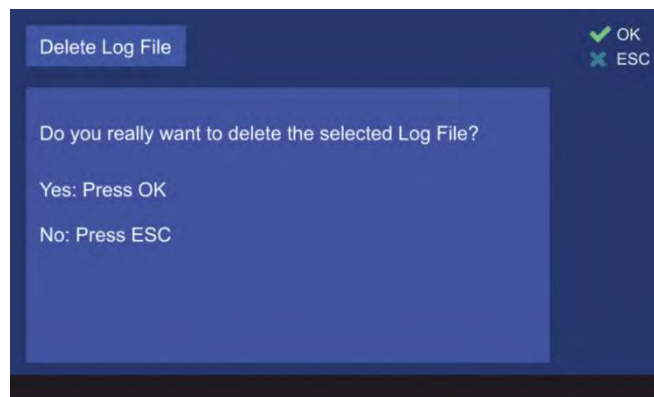

Figure 135. Confirming the deleting of the log file
- o Pressing the hotkey “Delete Log” will open the following window (s. Figure 135). Pressing “OK” will delete the currently marked file. Pressing “ESC” will close the dialog without deleting the log file.